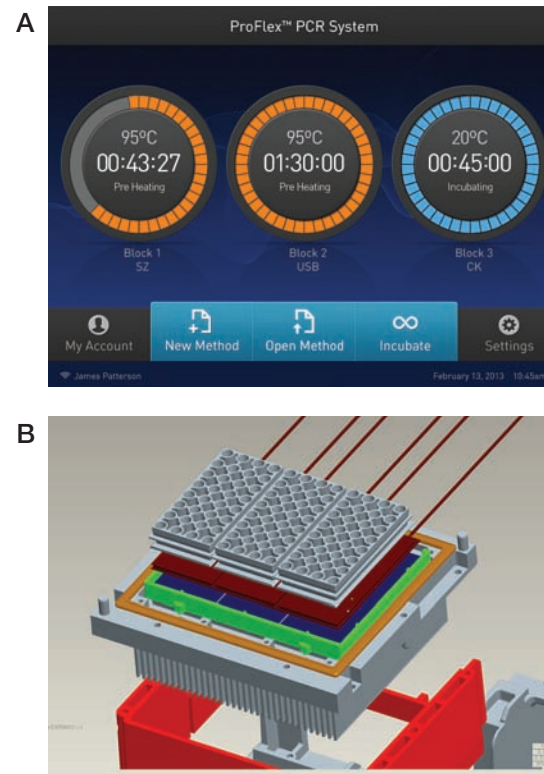

Figure 2. Applied Biosystems™ thermal cyclers. (A) Color touch-screens for easy programming. **(B)** VeriFlex™ technology for simple and accurate optimization.
Our Applied Biosystems™ ProFlex™, Veriti™, and SimpliAmp™ thermal cyclers have updated color touch screens for easy programming and monitoring of your run status at the bench (Figure 2). Simulation modes allow easy transition from previous thermal cyclers by simulating the ramp speed of your old instrument.
- Better-than-gradient VeriFlex™ Blocks temperature control (Figure 2) allows for a true linear temperature slope across metal blocks, with the ability to set up to 6 different temperatures. The user can set each zone to a unique temperature for precise control.